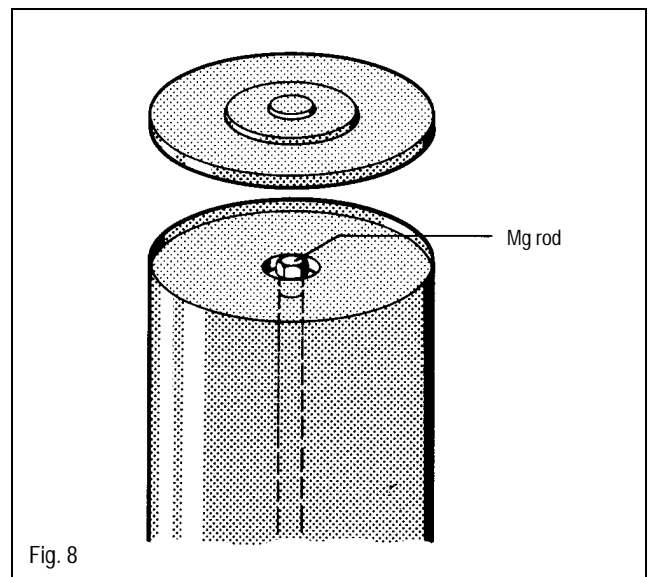

Fig. 8
- Verify that a magnesium rod is installed (Fig. 8).